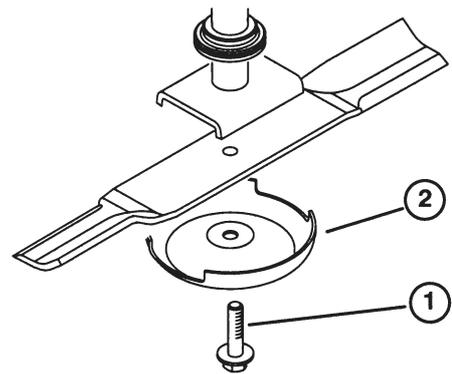

Figure 81
2. Examine the cutting ends of the blade carefully, especially where the flat and curved parts of the blade meet (Fig. 81-A). Since sand and abrasive material can wear away the metal that connects the flat and curved parts of the blade, check the blade before using the machine. If wear is noticed (Fig. 81-B), replace the blade: refer to *Blade Removal and Installation*.